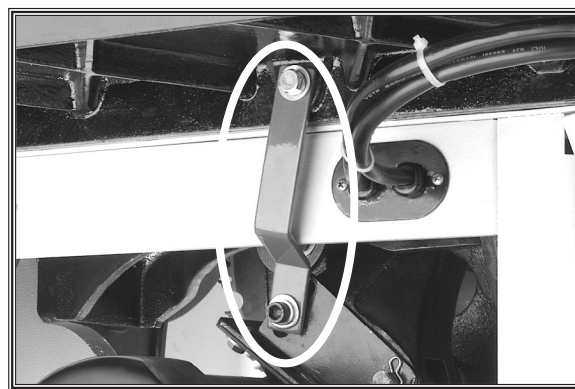

Figure 24. Motor shipping brace.
8. Remove the motor shipping brace, shown in **Figure 24**, then replace the fasteners that held the brace back into the hole from which they came.